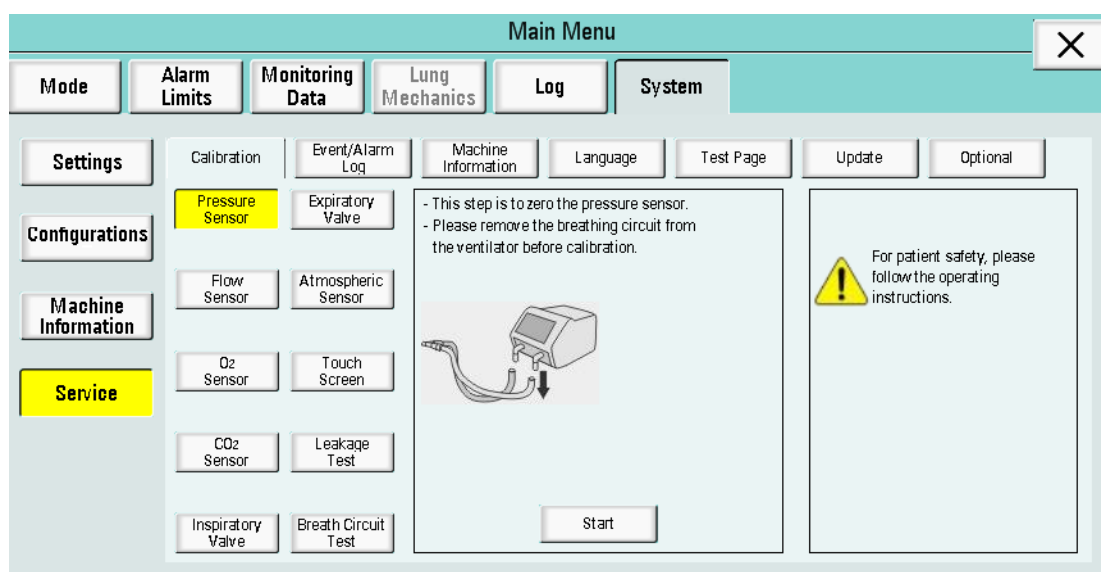

Figure 6-59
The calibration choices include: Pressure Sensor Calibration, Flow Sensor Calibration, O2 Sensor Calibration, CO2 Sensor Calibration, Inspiratory valve Calibration, Expiratory Valve Calibration, Atmospheric Sensor Calibration, Touch Screen Calibration, Leak Test and Breath Circuit test, as shown in Figure 6-59.
(1) Pressure Sensor Calibration: Click “Pressure Sensor” to enter the calibration interface. A message is displayed: “This step is to zero the pressure sensor. Please remove the breathing circuit from the ventilator before calibration.” A legend is displayed as well, as shown in Figure 6-59.